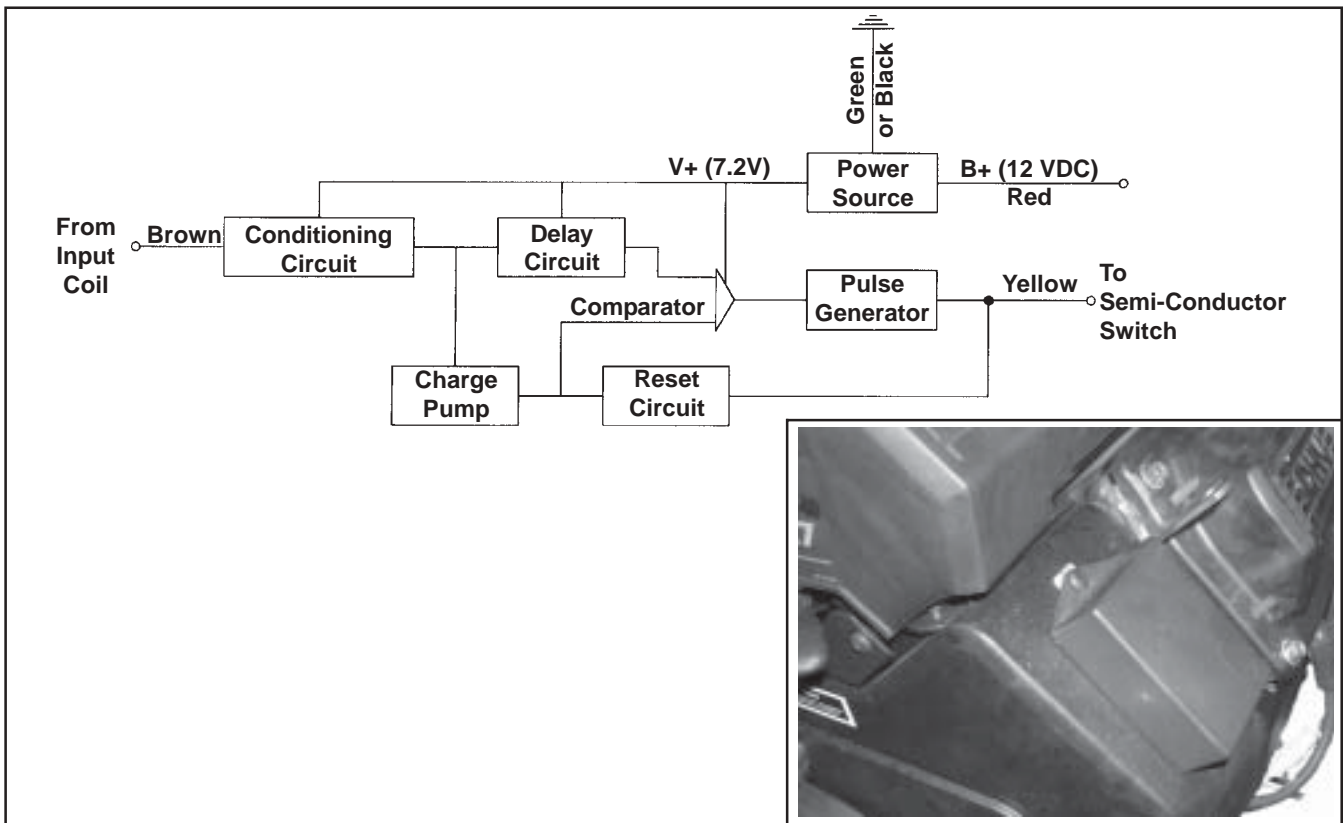

Figure 8-7. Block Diagram - Spark Advance Module.
- A spark advance module which mounts to the engine shrouding (Figure 8-7).
**Operation:** The ignition module for this system operates in the same fashion as the fixed timing module, except the trigger circuit for the semiconductor (L2, Figure 8-5) is replaced by the spark advance module (Figure 8-7).